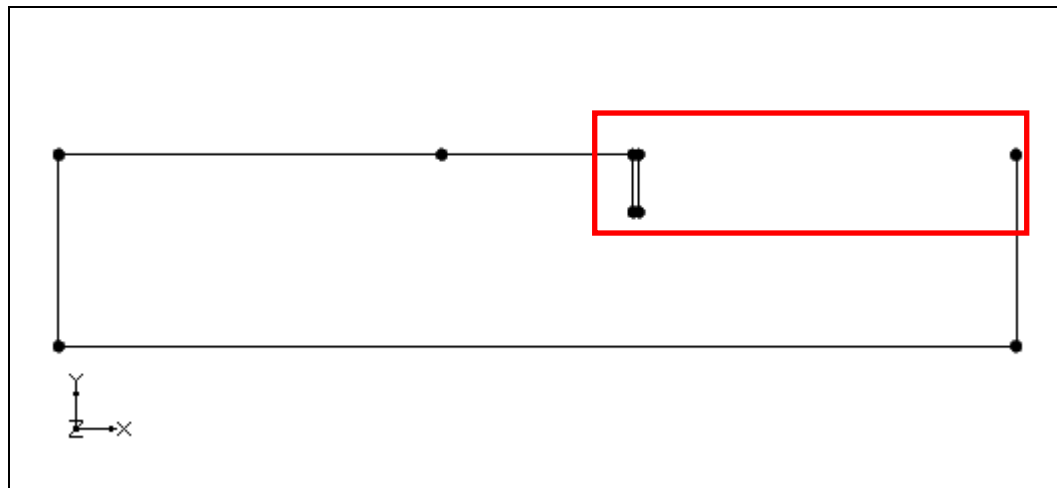

Figure 6. Arcs Connecting Points
7. Select the *Zoom* tool  and drag a box as shown by the red box in Figure 6.